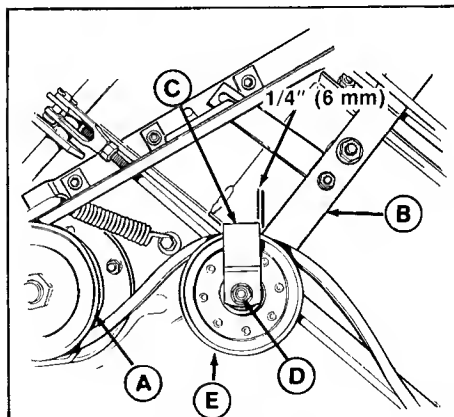

Figure 26. Mower Belt Replacement
2. Loosen the belt guide (C, figure 26) on the idler pulley (E).
5. Reposition the belt guide on the idler pulley (figure 26). Before tightening the nut (D), position the belt guide so it is 1/4 inch (6 mm) behind the idler arm (B) when viewed from above (figure 26). Hold the belt guide when tightening nut.
6. Reinstall the mower on the tractor (see Mower Installation). Engage the PTO lever and make sure the belt guide (C, figure 26) does not touch the belt.